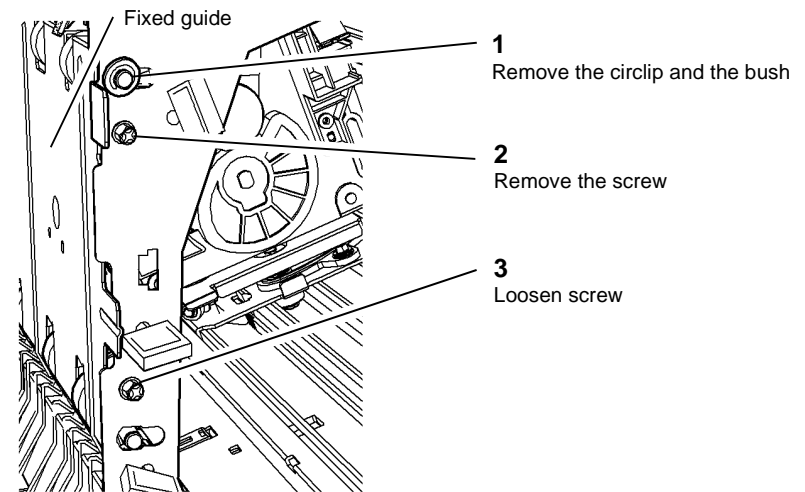

Figure 1 Circlip and bush removal
2. **Figure 1.** Remove the circlip and the bush.